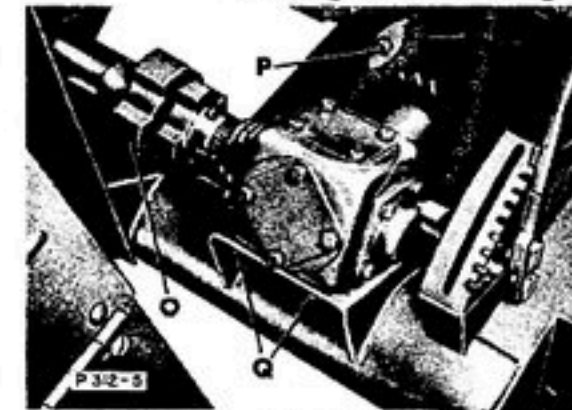

Figure 18
Figs. 18 and 19 - For ease of servicing these gear boxes, remove them in the following sequence:
1. Remove cotter pin from coupling "O" (Fig. 18), then slide coupling to the left as shown.